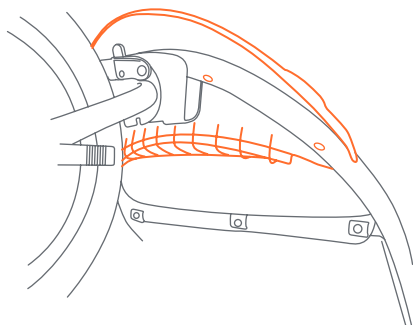

Fig. 24a
24) • Line up the front fender and press onto the front frame assembly (Fig. 24a).